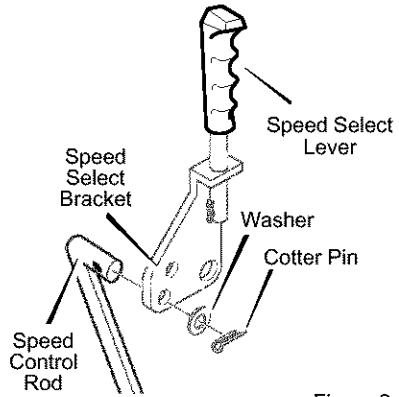

Figure 9
2. Attach the **speed control rod (end with 90° bend)** to the **speed select bracket** with **washer** and **cotter pin**. See Figure 9.